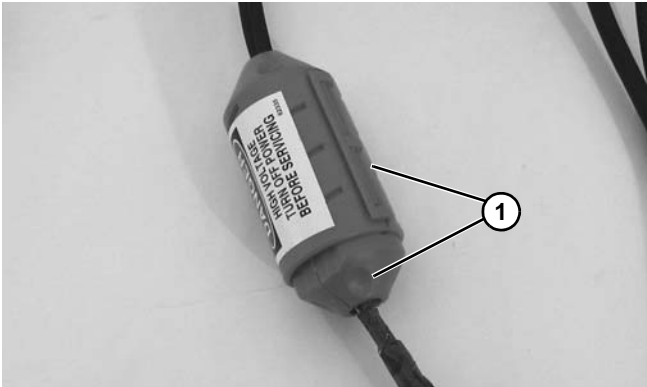

**Figure 15**
1. For DC variable speed motor, unplug motor cord at disconnect (**Figure 15, item 1**).